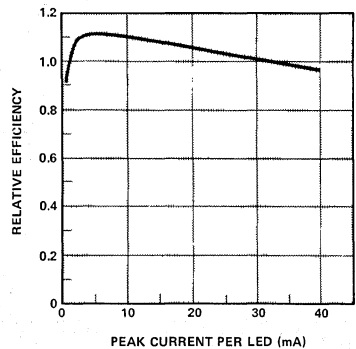

Figure 3. Relative Efficiency (Luminous Intensity per Unit Current) vs. Peak LED Current
- For HLMP-2965, derate above $T_A = 50^\circ\text{C}$ at 0.50 mA/°C per LED chip. For HLMP-2950, derate above $T_A = 60^\circ\text{C}$ at 0.50 mA/°C per LED chip. See Figure 3.